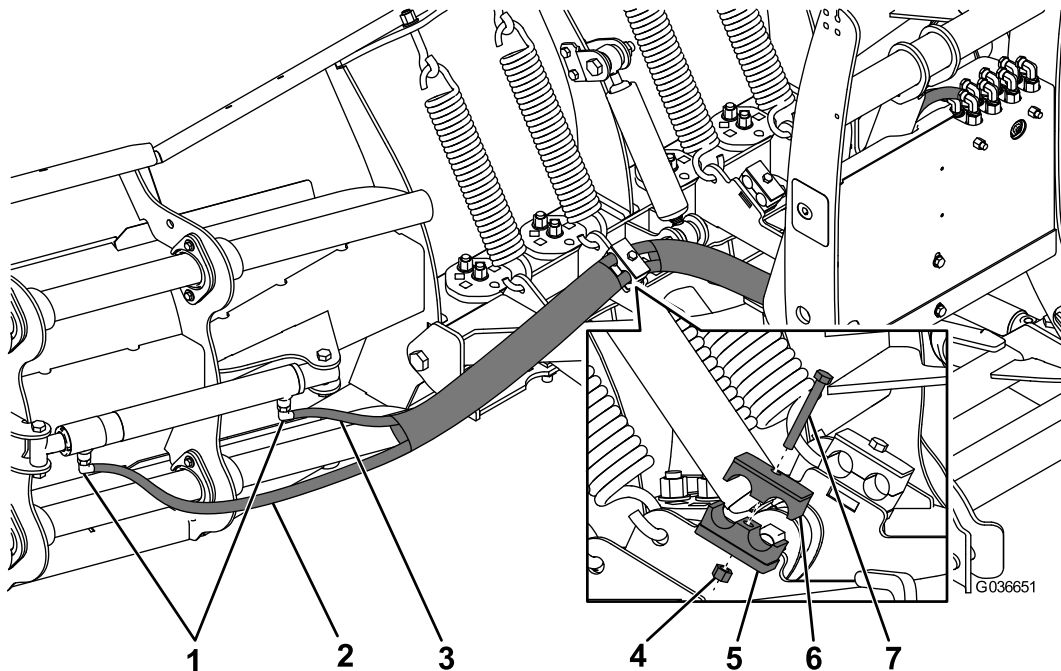

Figure 8
2. Slide the 2 hoses through 2 pieces of hose wrap as shown in Figure 8.
3. Secure the hoses to the left hose-clamp using a 5/16 inch bolt and nut between the 2 sections of hose wrap (Figure 8).
4. Using thread compound, install 90° fittings to the left wing extension cylinder (Figure 8).
5. Connect the 1.6 m (64 inch) hose to the inner fitting on the left wing-cylinder (Figure 8). Turn the fitting until it is finger tight, then turn it another 1/4 to 1/2 turn.
6. Connect the 2 m (79 inch) hose to the outer fitting on the left wing-cylinder (Figure 8). Turn the fitting until it is finger tight, then turn it another 1/4 to 1/2 turn.
11. Install the 1 m (40 inch) hose to the C1 port on the hydraulic shelf, and turn the fitting until it is finger tight, then turn it another 1/4 to 1/2 turn. Connect the other end of the hose to the left push-frame cylinder (Figure 8), and turn the fitting until it is finger tight, then turn it another 1-1/2 to 3 turns.